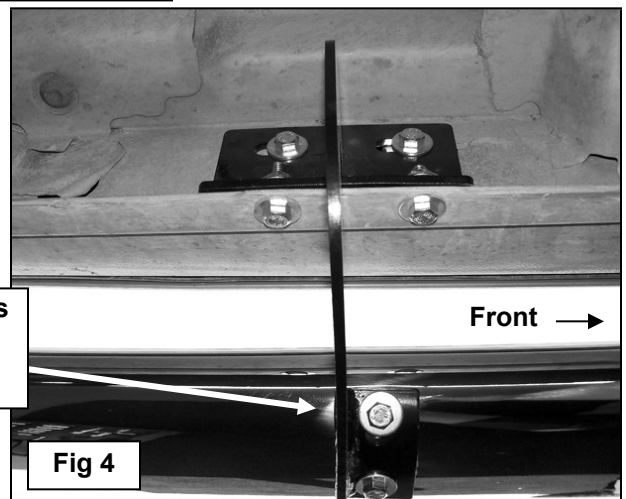

Fig 4
6. Carefully position the Sidebar onto the Mounting Brackets and attach it using the included (4) 8mm x 25mm Hex Bolts, (4) 8mm Lock Washers and (4) 8mm Flat Washers, **(Figure 4)**. Do not tighten hardware at this time.